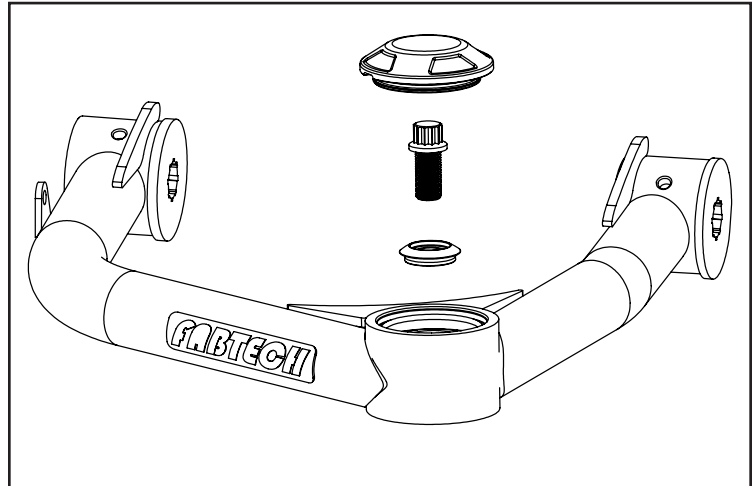

FIGURE 8 - STEP 9
9. Attach the new upper control arm to the knuckle by inserting the FT90152 (Upper misalignment) into the uniball bearing then the 1/2-20 - 12 point bolt. Torque to 120 ft-lbs. Install FT90154 (Bearing cap). **SEE FIGURE 8**